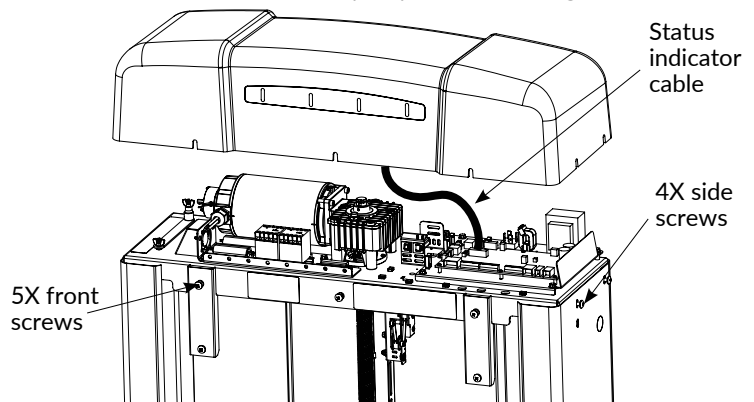

Figure 3-3
2. Loosen seven (7) screws around the perimeter of the top cap with a Phillips head screwdriver.
3. Lift the top cap partially and disconnect the cable between the top cap at the control board. Set the top cap aside. **See Figure 3-3.**